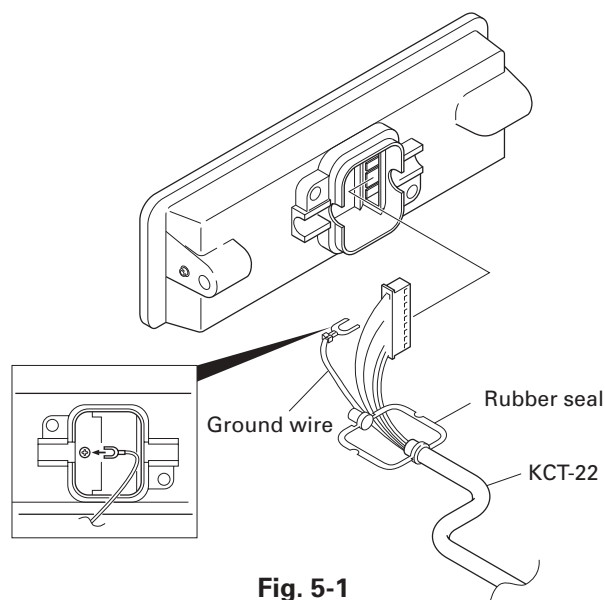

Fig. 5-1
3. As shown in Figure 5-1, make sure that the rubber seal is placed above the cable, then plug the 11-pin connector into the front panel PCB assembly.
4. Also, affix the ground wire to the front panel chassis, as shown in Figure 5-1, with the supplied screw.